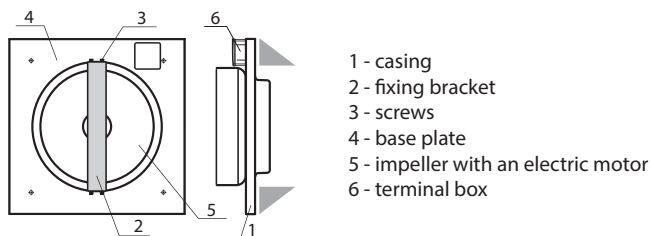

Fig. 8
**The VC-PN fan** (Fig. 8) consists of the casing 1 with the electric motor and impeller 5 attached to the fixing bracket 2.
VC-PN (Fig. 8)